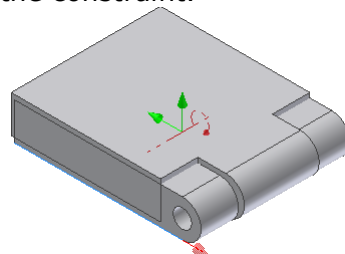

Figure 1.6
9. Select the bottom edge of Plate 2:1 as shown in Figure 1.6